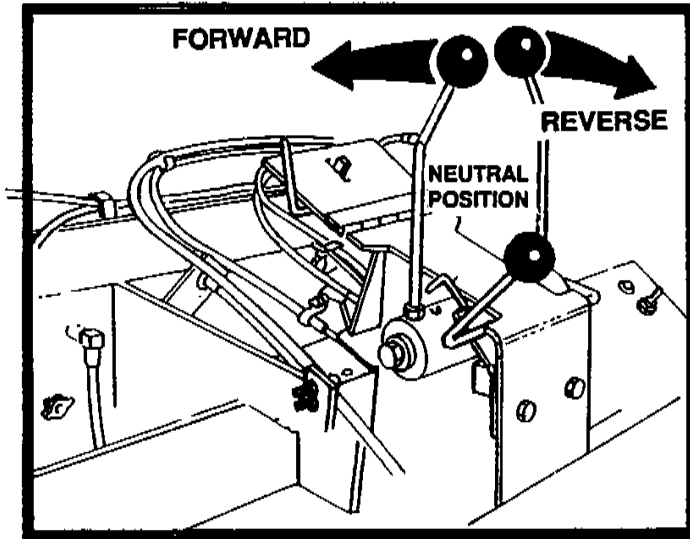

FIGURE 3
The forward/reverse plus turning will require exact movement. The steering levers along with the inter-connected hydraulic components make possible the positive control necessary. The following procedures plus illustrations in figures 3, 4 and 5 will provide a working knowledge of operating the paver through forward/rearward and turning requirements.
2. To drive the paver forward, push the steering levers together from the neutral position forward. To drive in reverse, pull the steering levers toward the rear from the neutral position. Refer to figure 3.